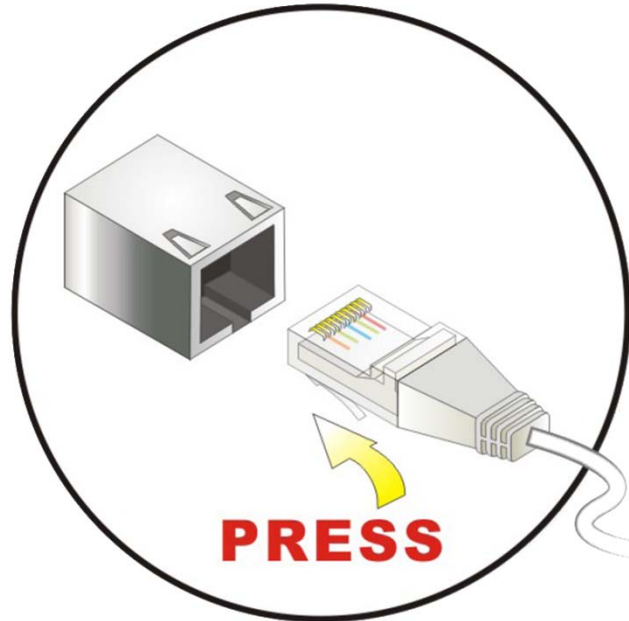

Figure 5 – LAN Connection
Step 2: Align the connector. Align the RJ-45 connector on the LAN cable with the RJ-45 connector on the bottom panel of the TSM1330. See Figure 5.